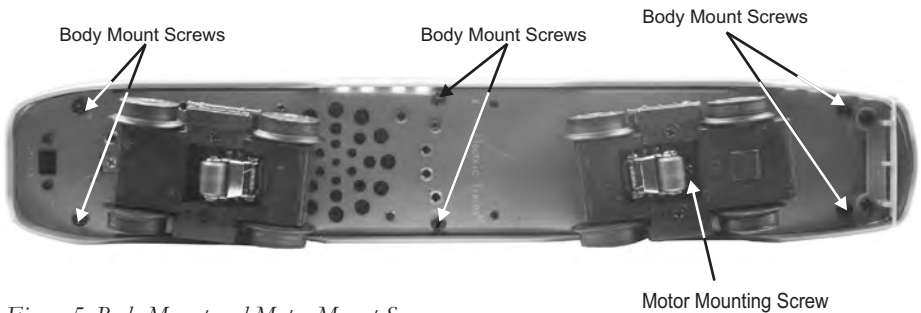

Figure 5: Body Mount and Motor Mount Screws
1. To access the gear box, remove the cab from the chassis by unscrewing the chassis screws as seen in Figure 5 and lifting the cab from the chassis.
2. Once the cab is removed, remove the trucks by unscrewing the black Phillips motor mount screw located on the underside of the drive trucks (see Fig. 5).